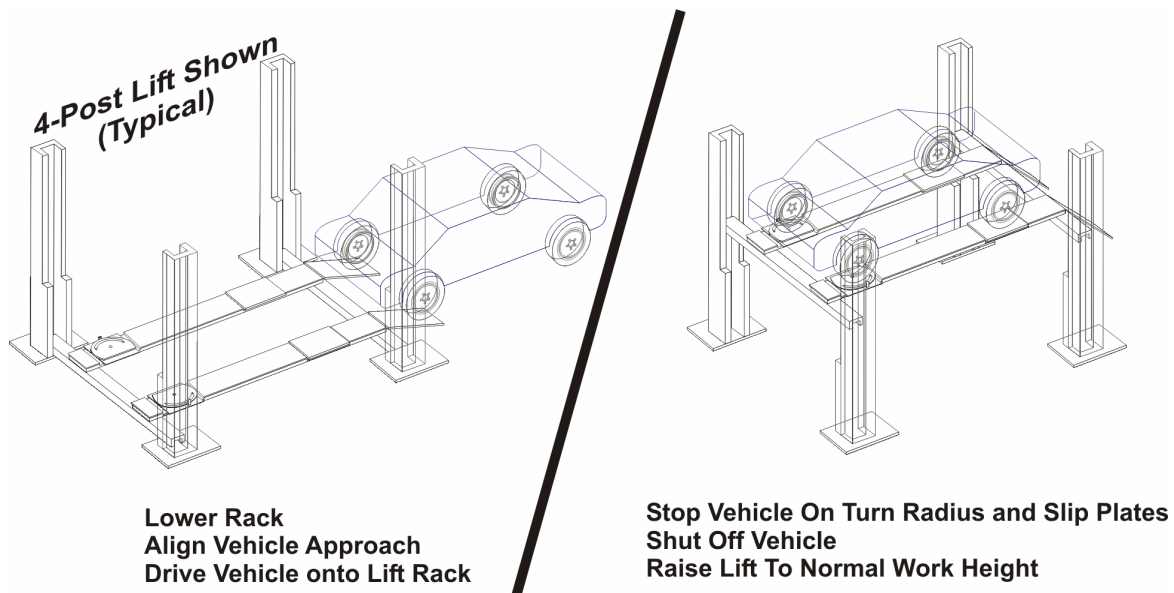

Figure 3-1. Vehicle Lift Preparation
- 3.1.1 Using Figure 3-1 as a guide, lower the lift rack. Align the vehicle with the ramps and drive the vehicle onto the lift.